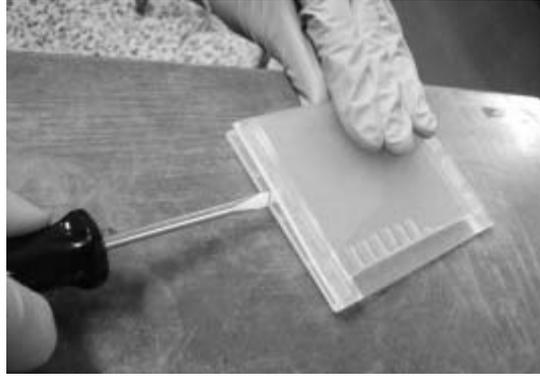

Figure 5. Removing the gel from the plastic cassette.
14. Wearing gloves, take the gel cassette out of the chamber. The polyacrylamide gel must now be removed from the plastic cassette. To remove the gel, first place the cassette on a lab bench. Insert the tip of a small flat screwdriver between the plates and twist the screwdriver gently until you hear the seal break (see Figure 5). Move along the edge of the cassette and repeat this action until the entire seal is broken. Break the seal on the other side in the same manner. Gently remove the top plate to access the gel.